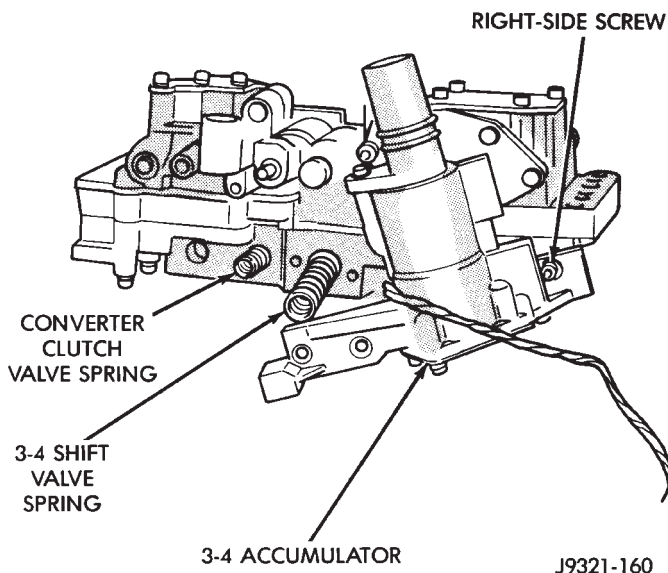

Fig. 87 Converter Clutch And 3-4 Shift Valve Springs
(1) Position converter clutch valve and 3-4 shift valve springs in housing (Fig. 87).
(2) Loosely attach accumulator housing with right-side screw (Fig. 87). Install only one screw at this time as accumulator must be free to pivot upward for ease of installation.